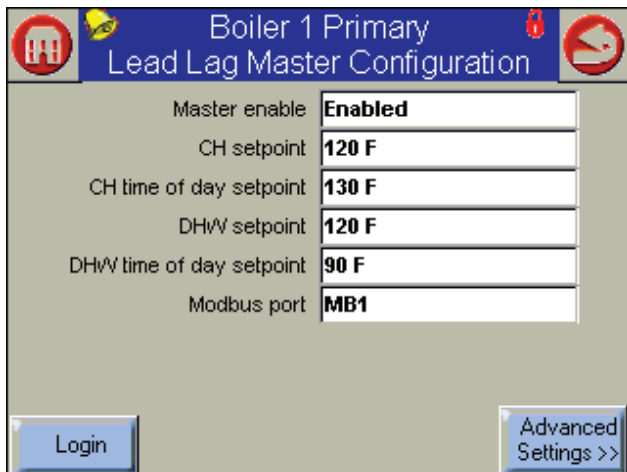

Fig. 114 – Lead/Lag Master Configuration
4. Press the Configure button. The display will present the Lead/Lag Master Configuration Screen (Fig. 114).